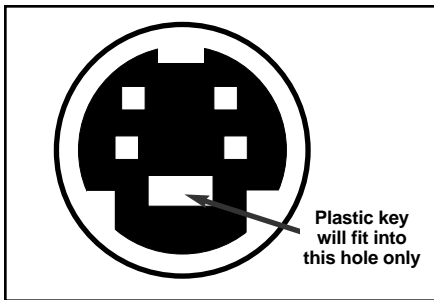

Figure 3. 4-pin mini-DIN connector (female)
- AC041 uses S-Video cable with 4-pin mini-DIN connectors. When installing the cables, be sure that the small pins in the mini-DIN connector are not bent or damaged before inserting them into the jack on your Video Switch. Align the cable connector with the plastic key down (see Figure 3).